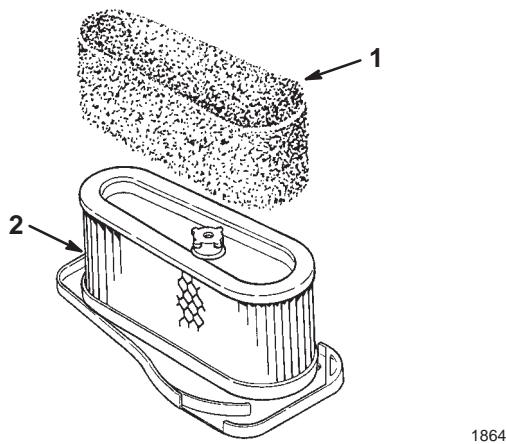

Figure 23
4. Carefully slide the foam element off of the paper element (Fig. 23).
- Carefully slide the foam element onto the paper air cleaner element (Fig. 23).